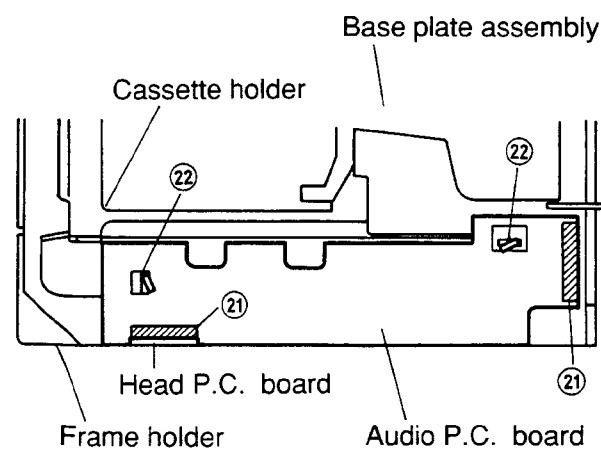

Figure 16
- (1) Remove two solders (21) and remove the parallel wire (7P) and the head P.C. board as shown in Figure 16.
- (2) Adjust the two claws (22) to the rectangular holes on the P.C. board and remove the P.C. board as shown in Figure 16.
- (3) After replacement, mount the new P.C. board following the removal steps in the reverse order.